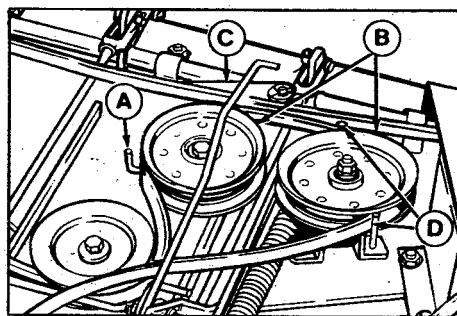

Figure 35. Mower Belt Stops
**Right Idler Pulley Belt Stop.** Make sure the long side of the right belt stop (A, figure 35) is inserted in idler pivot bracket slot (C). There is no adjustment.
**Left Idler Pulley Belt Stop.** Make sure the belt stop (D) is level with the pulley. If the belt stop is level, each side will be an equal distance from the belt. To reposition the belt stop, loosen the mounting capscrew on the bracket underneath the pulley. Retighten hardware securely.